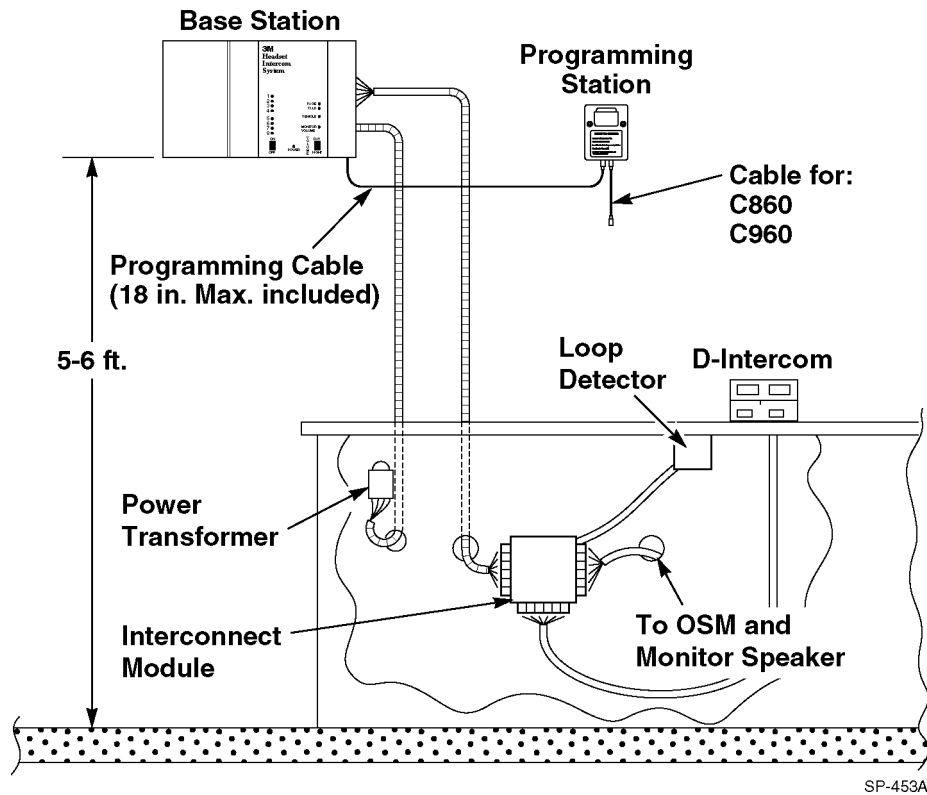

Figure 1. Typical Installation
4. Feed the cables for speaker, microphone, vehicle detect and monitor speaker (if used) through the conduit down to the interconnect module or base station. (See Figure 1.)
5. Feed the transformer cable from the outlet to the base station. (See Figure 1.)